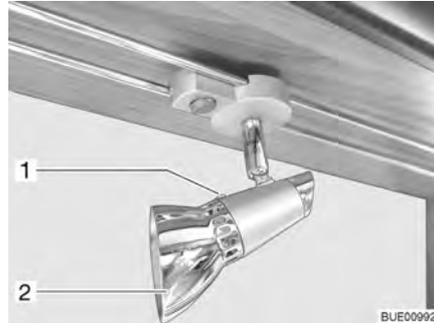

Fig. 206 Halogen spotlight (movable)
- Loosen the fixing screw (Fig. 206,1).
- Remove the lamp shade (Fig. 206,2).